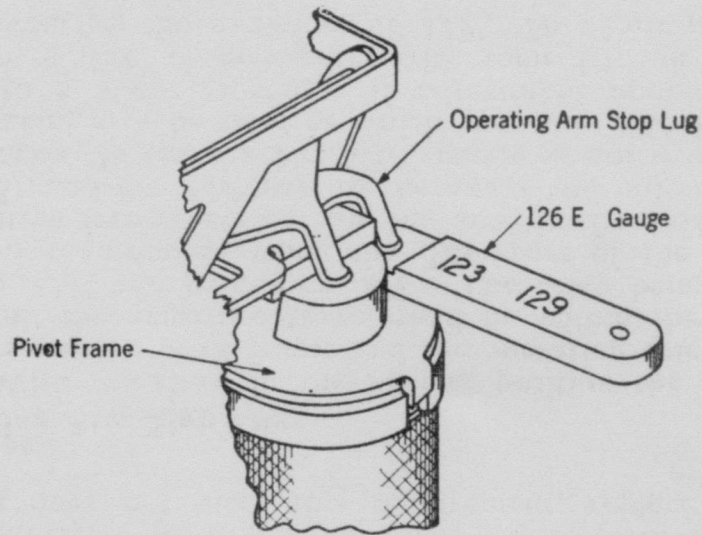

Fig. 15.
5.11 With armature in the normal position the space between the pivot frame and the operating arm stop lugs which limit the armature travel shall be within the limits of minimum .123" and maximum .129". The relay being checked meets this requirement when the .123" part of the No. 126E gauge enters freely between the lug and the frame (as shown in Fig. 15), and the .129" part of the gauge will only enter with some friction. When the No. 126E gauge is not available the No. 44 gauge may be used in which case the .125" blade may enter with a slight looseness if adjustment approaches the maximum of .129" or may enter with some friction if adjustment approaches the minimum of .123". To adjust proceed as follows: